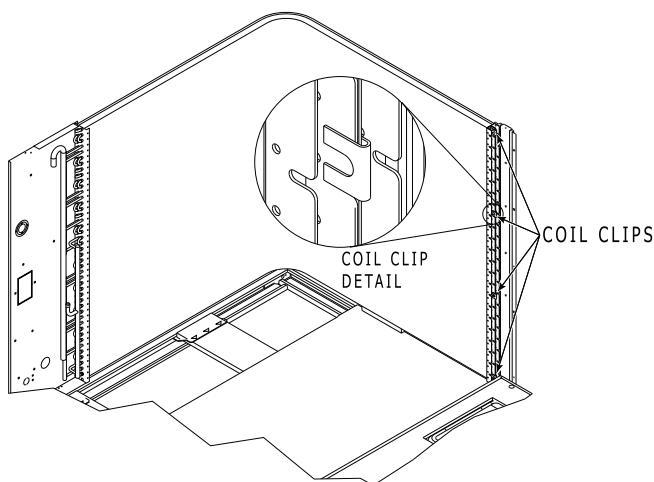

Fig. 19 – Condenser Coil Clips
5. Remove the screws from both sides of the 4 coil retaining clips on the hairpin end of the coil tube sheets. (See Fig. 19.)